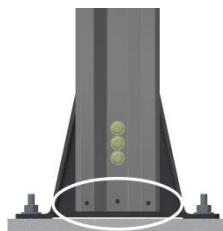

Figure 5
3. Lift until there is a 1/4" to 1/2" gap underneath each leg. (Figure 5)